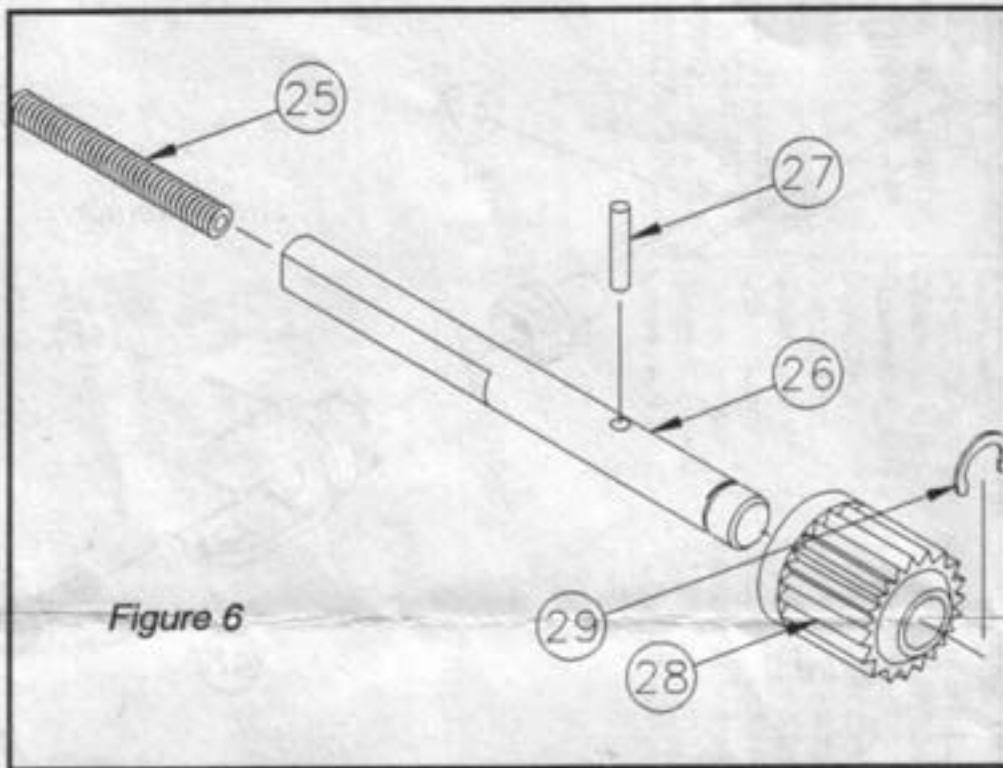

Figure 6
18. Thread the 4-40 set screw (25) into the end of the top gear box shaft (26). Assure that the set screw (25) is tight. Fig. 6
19. Press the 1/16" x 5/16" roll pin (27) into the top shaft (26) so that it extends evenly from both sides of shaft (26). Slide the top gear (28) over the top shaft (26) from the side away from the set screw (25) and line up the roll pin (27) with the slot in top gear (28). Secure the top gear with a 'C' clip (29) in the slot in the top shaft (26). Fig. 6